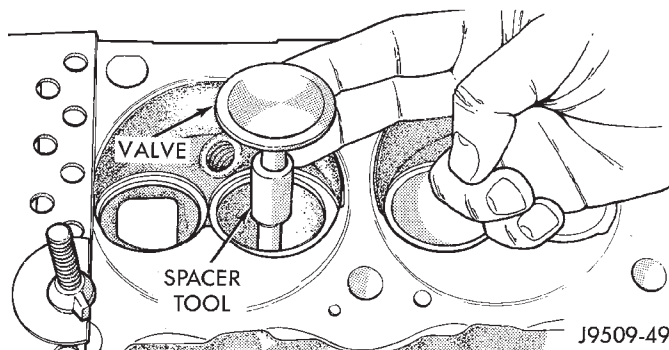

Fig. 49 Positioning Valve with Tool C-3973
(1) Install Valve Guide Sleeve Tool C-3973 over valve stem and install valve (Fig. 49). The special